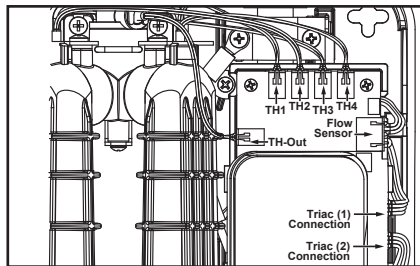

Figure 40 - Sensors control board terminal locations.
With the front cover removed, take a moment to record or photograph how the sensors and triac(s) are installed and which control board terminals the wire harnesses are plugged into. See Figure 40.
**9** Properly reconnect the sensor and triac(s) to the control board, making sure the sensor, triacs, and wire harness connections are connected to the proper control board terminals. See Figures 40 and 41, page 25.